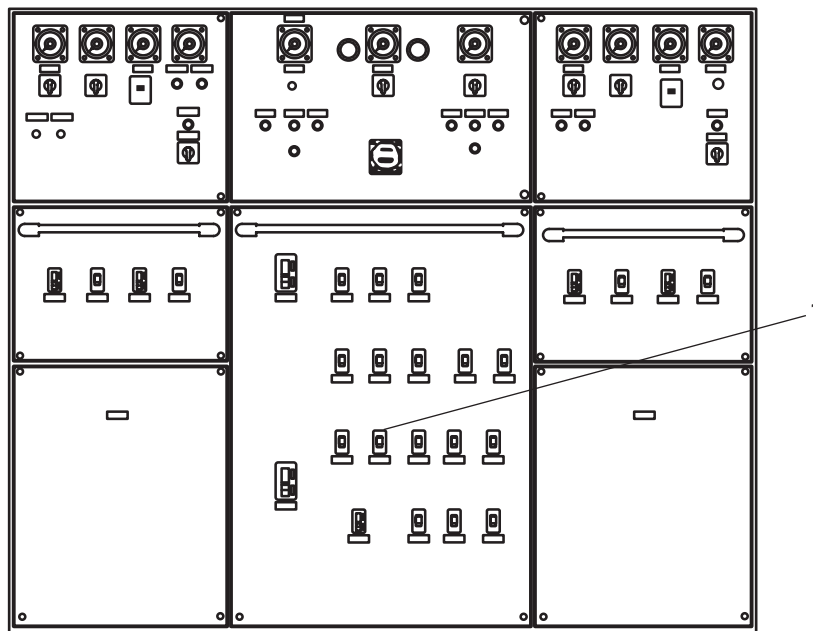

Figure 3. EOS Main Switchboard
8. At the main switchboard, set the AUX MACH SPACE NO. 1 PWR PANEL NO. 4 circuit breaker (figure 3, item 1) to ON.